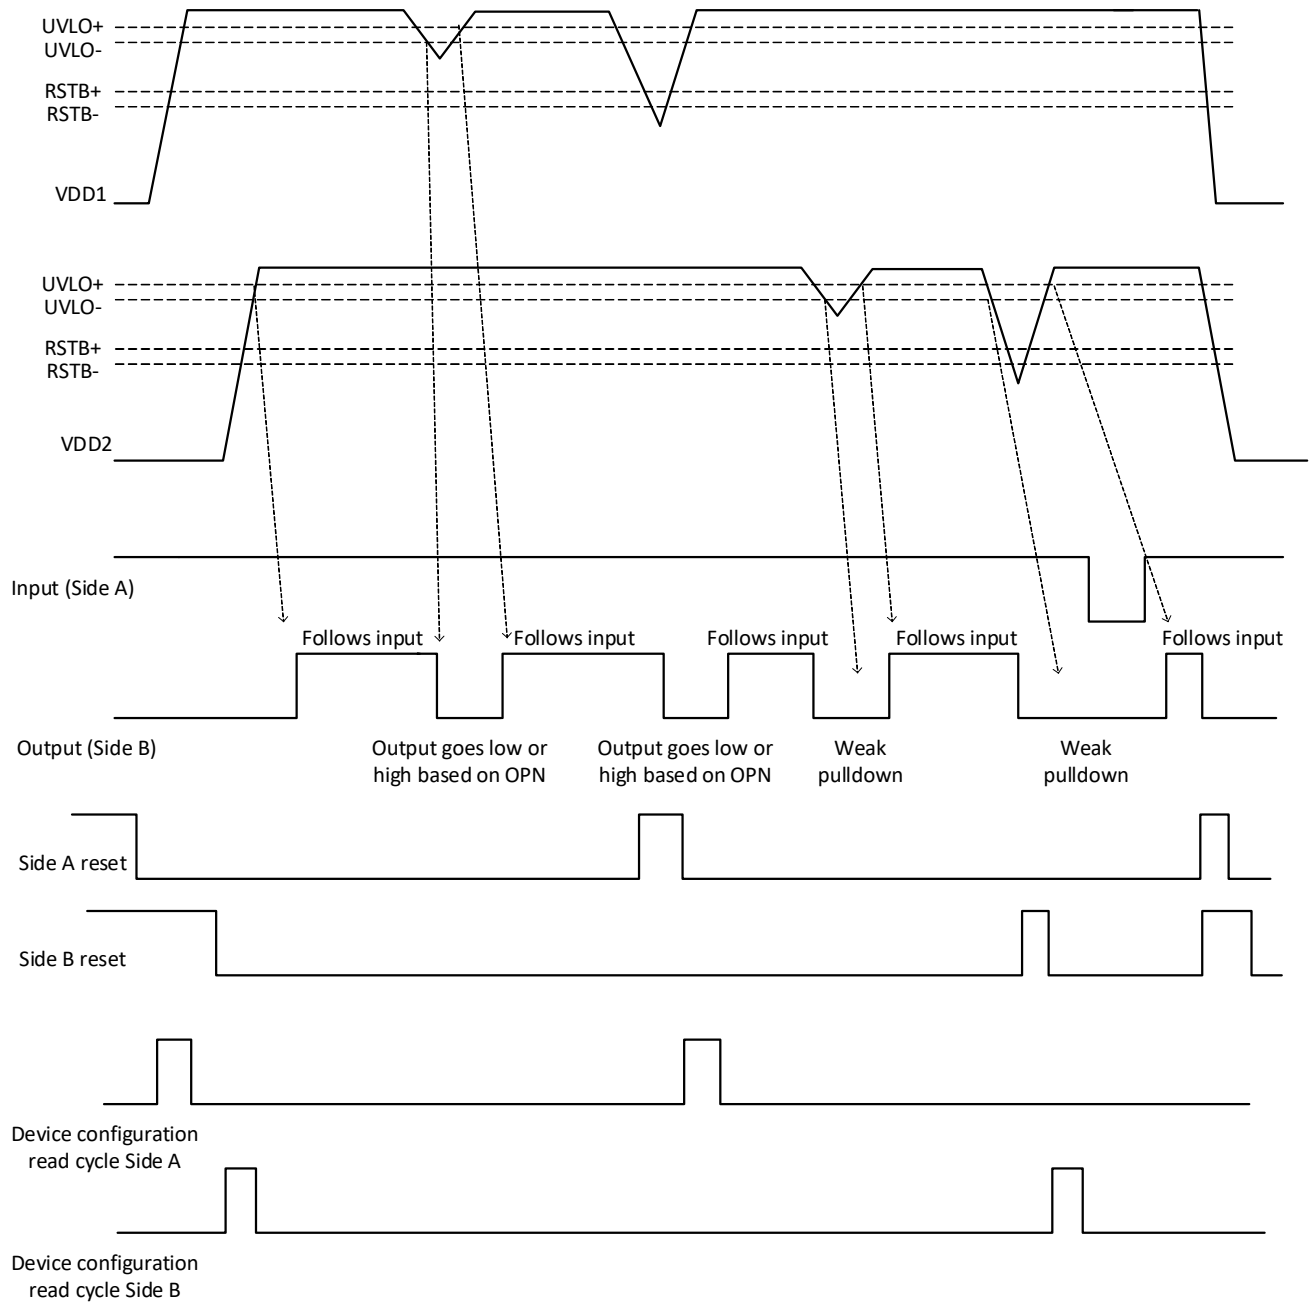

Figure 9. Device Behavior during Startup
Device behavior during start-up, normal operation, and shutdown is shown in Figure 9, “Device Behavior during Startup,” on page 10, where UVLO+ and UVLO– are the respective positive-going and negative-going thresholds. Refer to the following tables to determine outputs when power supply (VDD) is not present and for logic conditions when enable pins are used.
- “Powered” state (P) is defined as 2.25 V < VDD < 5.5 V.
- “Unpowered” state (UP) is defined as VDD < 2.25 V.
- UD = Undetermined. Refer to Figure 9, “Device Behavior during Startup,” on page 10, the start-up time from unpowered state, below 1.7 V (RSTB) threshold to powered state, is 0.3 ms. If VDDO only dips below 2.1 V (VDDOK level in Figure 3.1) but stays above RSTB level, the start-up time is 1 μs.